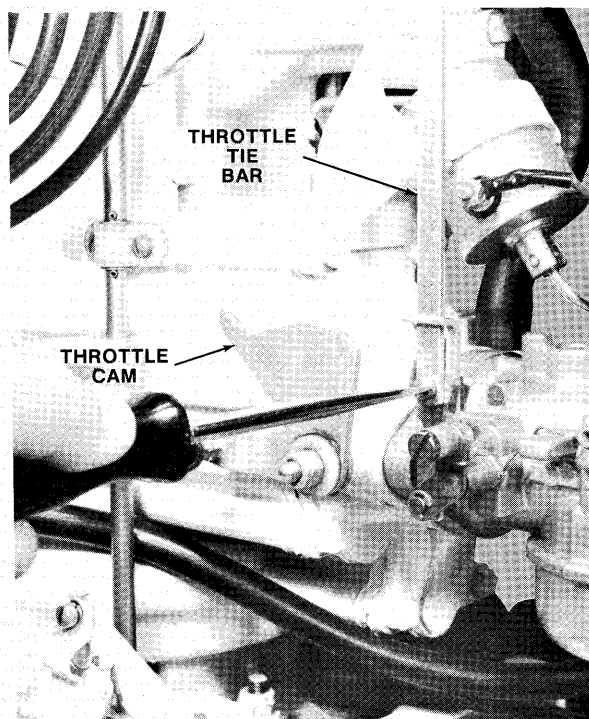

Figure 12—Loosening Throttle Tie Bar Screw
- C. Loosen throttle tie bar screw as shown in figure 12.
- E. Tighten throttle tie bar screw (see figure 12) and check to see that throttle tie bar end pivot goes in and out of throttle arm of carburetor freely.